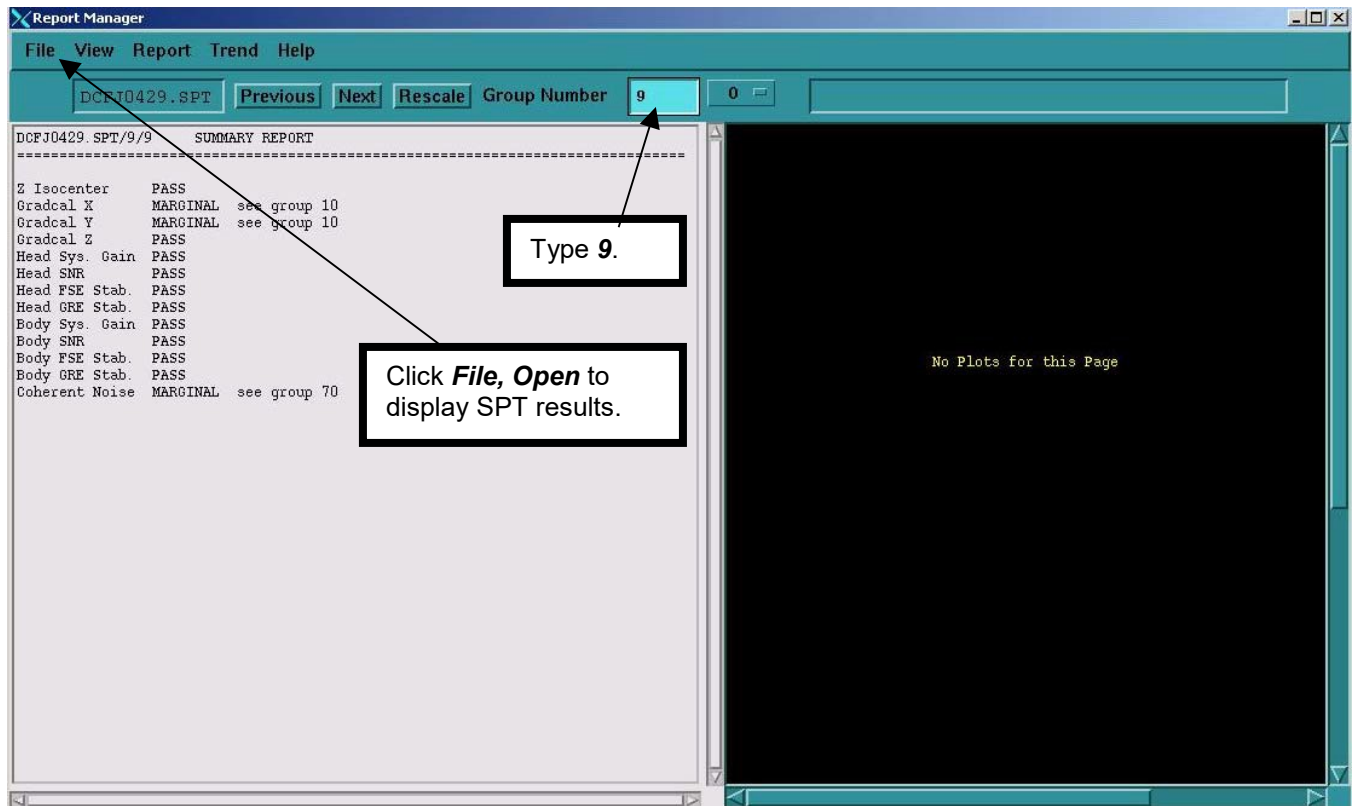

Figure 8
- 11. Enter “9” in the Group Number field, click the “File” pull-down menu, and select “Open” to display SPT results. See Figure 8.